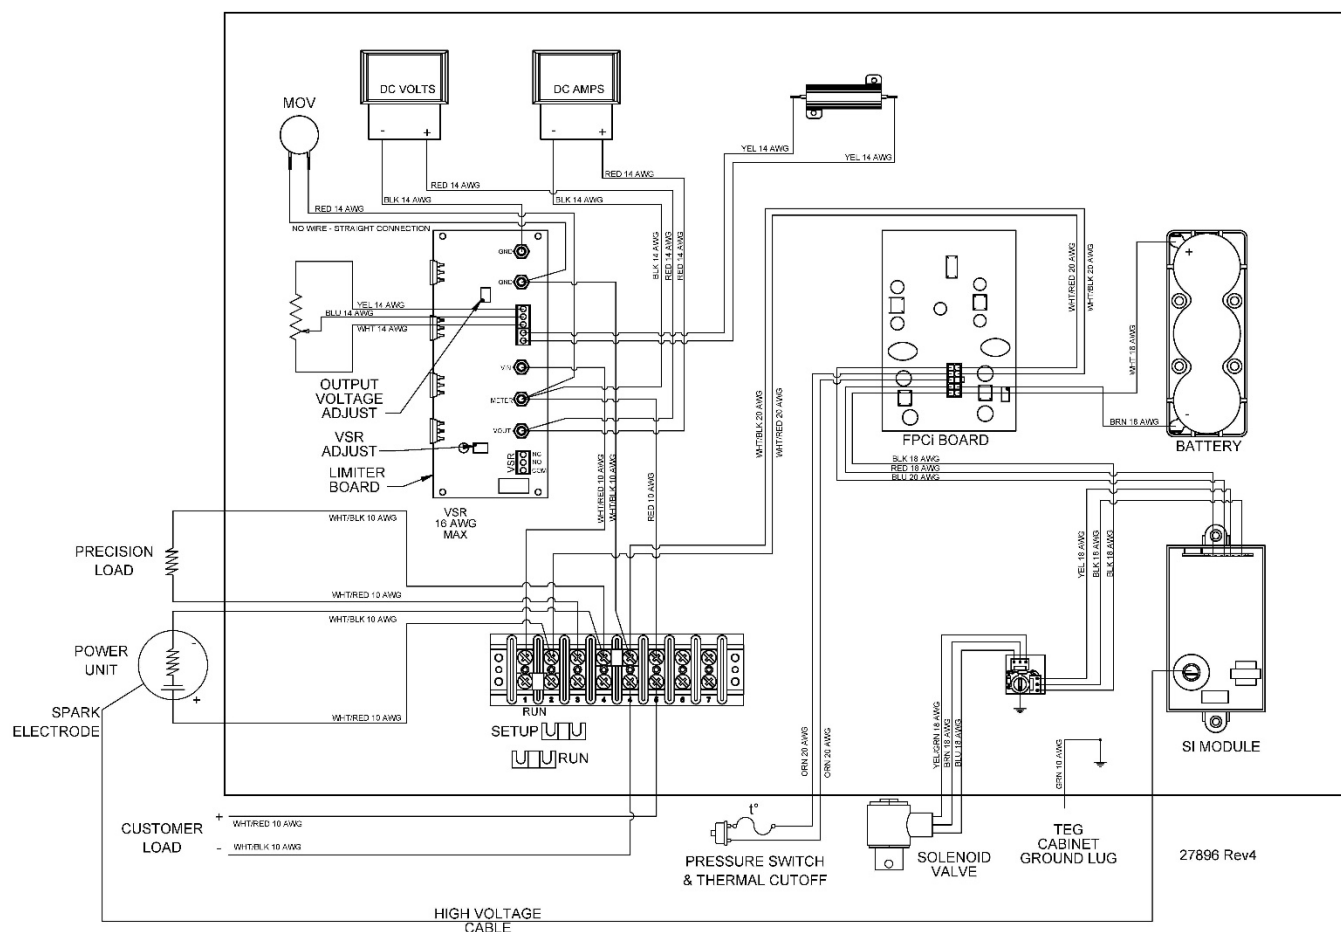
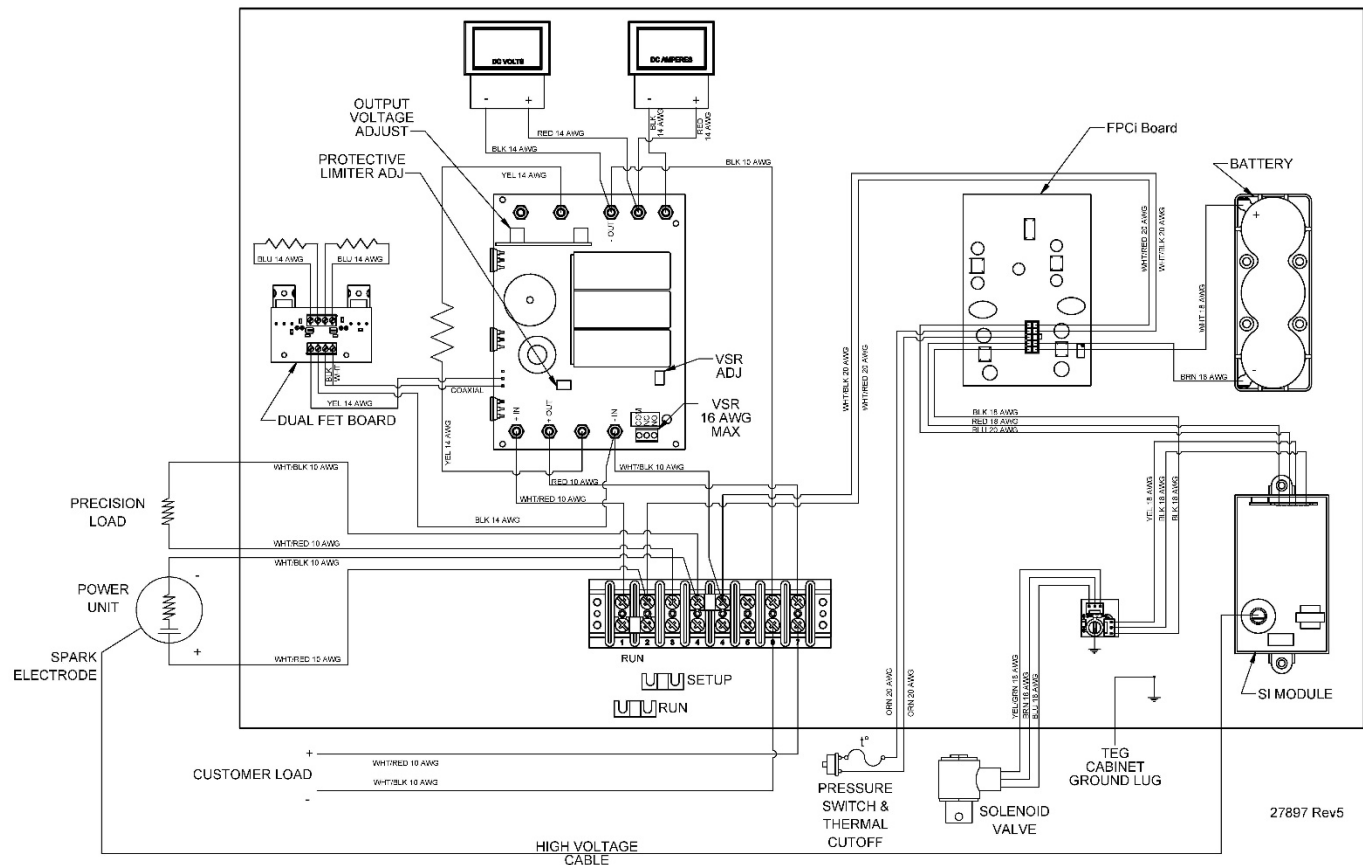

Figure 13 – Wiring Diagram 5220 TEG, with 12 V Limiter Assembly
Figure 14 – Wiring Diagram 5220 TEG, with 24V L/C Assembly
12 V: Connect the load at terminals 5 (+) and 4 (-) (Figure 13).
24 V: Connect the load at terminals 7 (+) and 6 (-) (Figure 14).
3. Connect the L/C wires to TB-1 as per Figure 14.
1. Move the jumper on TB-1 from the RUN position to the SETUP position, i.e. from between terminals 1 and 2 to between terminals 2 and 3 respectively. See Figure 13 or Figure 14.